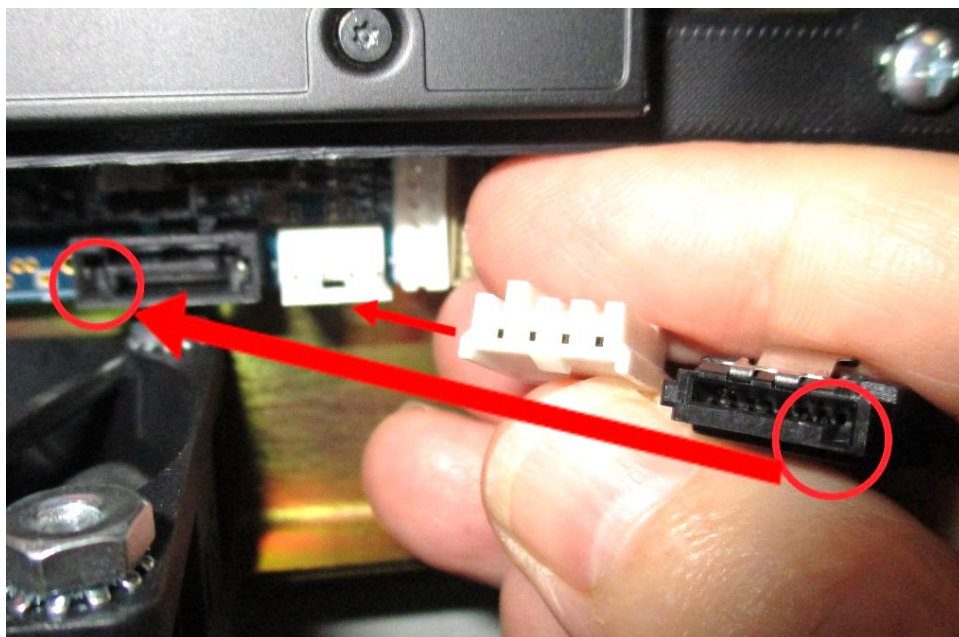

Figure 6.1.7d
6. The SSD cable branches into a data and power cables to be connected into the circuit board behind and below the SSD just installed. The data cable terminates with same type of notch as used in the large end preventing an error while attaching the connector. The smaller white power connector has a wide notch with a tab along the bottom which forces the install only one way as shown in Figure 6.1.7d.